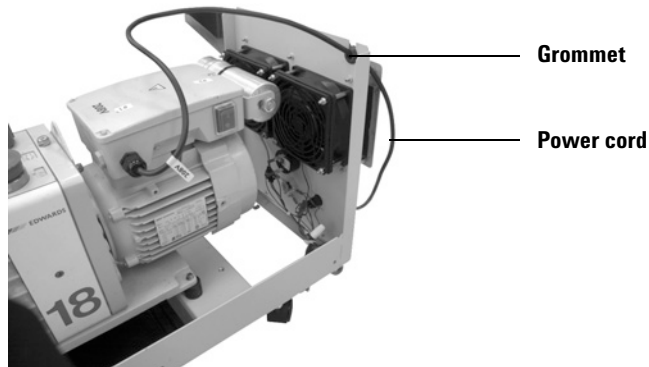

Figure 7 Installed pump power cord.
- 8 Slide the grommet with the power cord back into the groove on the back of the frame. See Figure 7.